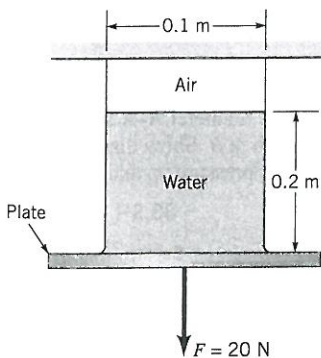

Figure P2.71
2.71 An inverted 0.1-m-diameter circular cylinder is partially filled with water and held in place as shown in Fig. P2.71. A force of 20 N is needed to pull the flat plate from the cylinder. Determine the air pressure within the cylinder. The plate is not fastened to the cylinder and has negligible mass.